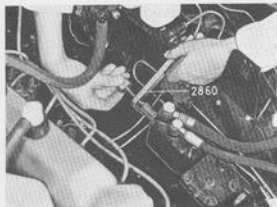

Fig. 6-71. Removing sealing ring
4. Carefully apply tool 2860 to the sealing ring. Tighten the screw (Fig. 6-71). This also tightens the sealing ring. If the ring sticks in the circlip groove, carefully turn the tool backwards and forwards.